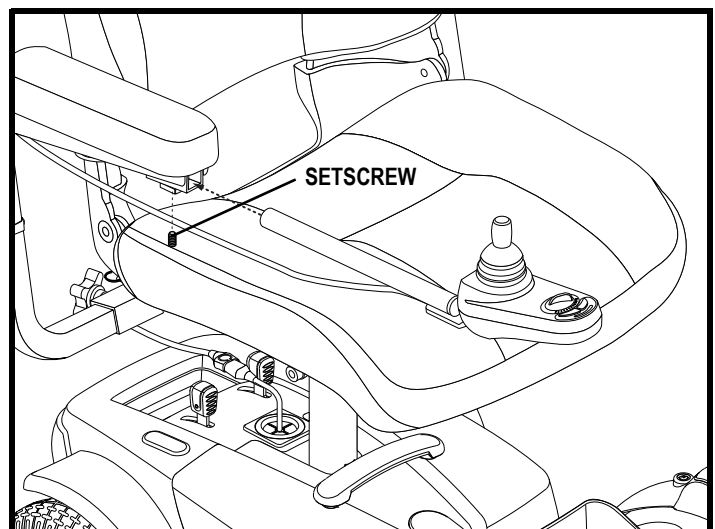

Figure 16. Controller Position
4. Flip up the armrest and loosen the setscrew. See figure 16.